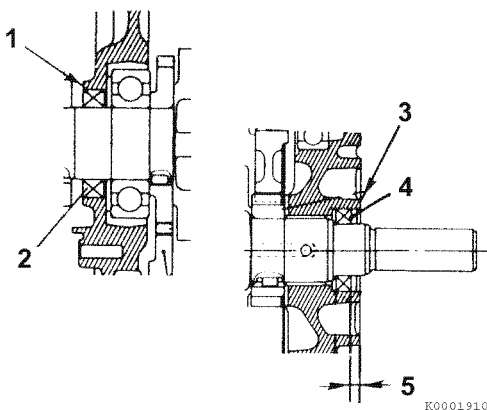

Figure 6-87
2. Use a seal installation tool to install the crankshaft oil seal (4, **Figure 6-87**) into the crankcase cover (3, **Figure 6-87**). Install to a depth of 0.16 in. (4.0 mm) (5, **Figure 6-87**) below the end of the crankcase bore. *See Special Service Tools on page 6-19 for the appropriate tool number.*
3. Install the crankshaft oil seal (2, **Figure 6-87**) into the cylinder block flush with the surface of the cylinder block (1, **Figure 6-87**).